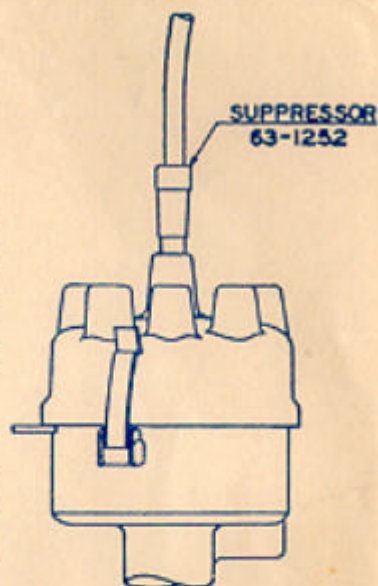

Fig. 2
11. Plug in antenna cable (Fig. 2).
18. **IMPORTANT:** Turn the receiver on and allow it to operate for approximately fifteen minutes in order for it to reach normal operating temperature. Tune in a weak station near 1200 Kc. With a small screw driver adjust the antenna trimmer, located on the right side of the receiver for maximum volume. (Fig. 2).
2. Install suppressor No. 63-1252 in center of hole of distributor cap. Place high tension lead in top of suppressor. Be sure the suppressor and the lead are fastened securely. (Fig. 2)